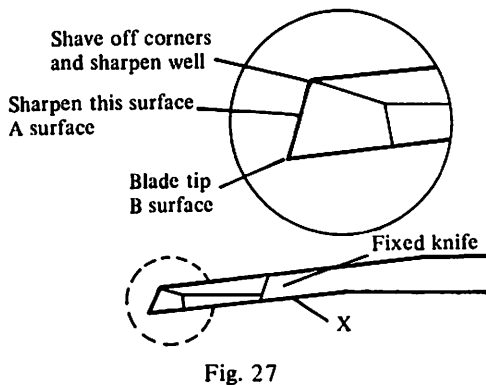

Fig. 27
- ⊙ Just sharpen the "A" surface (Fig.27) and cutting becomes better. (Note the angle shown by X in Fig.27)